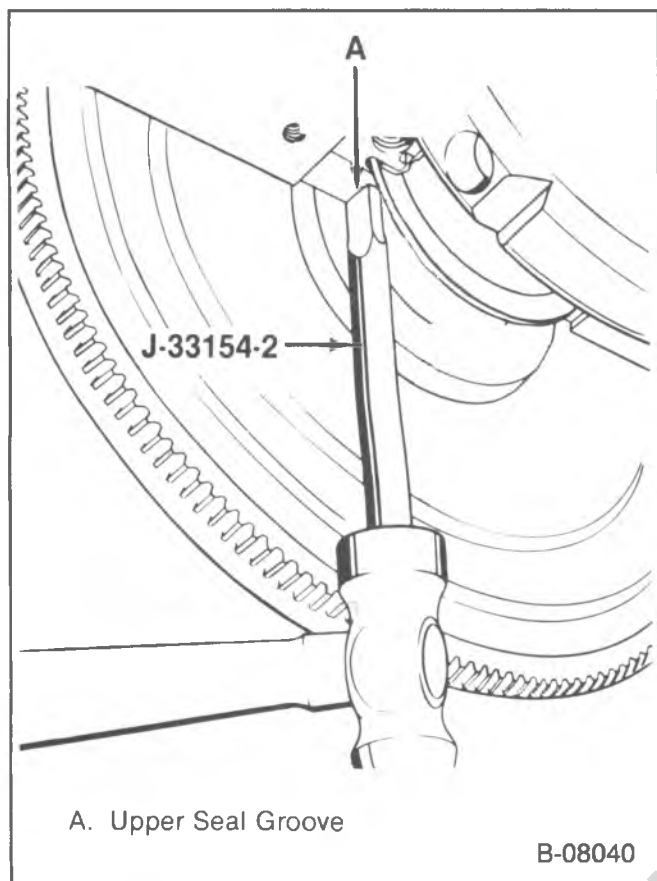

Figure 21—Packing the Upper Rear Crankshaft Rope Seal
→ Install or Connect (Figures 21 through 24)
- Use J-33154-2 and gently drive the upper seal into the groove about 6 mm (1/4-inch). Do this on both sides. Refer to figure 21.